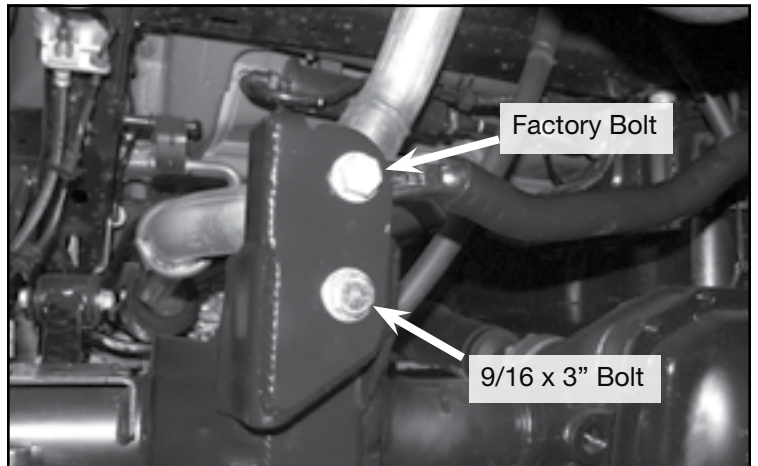

FIGURE 43 - STEP 38
38. Install the supplied 9/16" x 3" bolt, washers and nut along with the FT50592 (sleeve) for the lower track bar bracket hole. Then install the track bar to the new bracket using the factory bolt hardware. Torque both bolts to 153 ft-lbs. **SEE FIGURE 43**